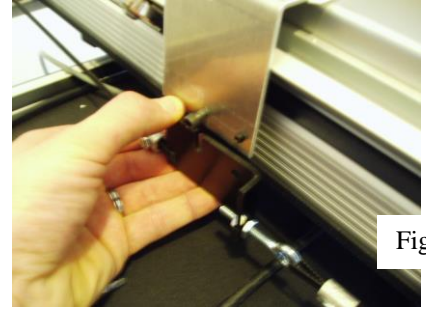

Fig 12
7. Screw the carriage belt bracket to the carriage bracket (using the pin in the bracket to help line it straight) (fig 12)